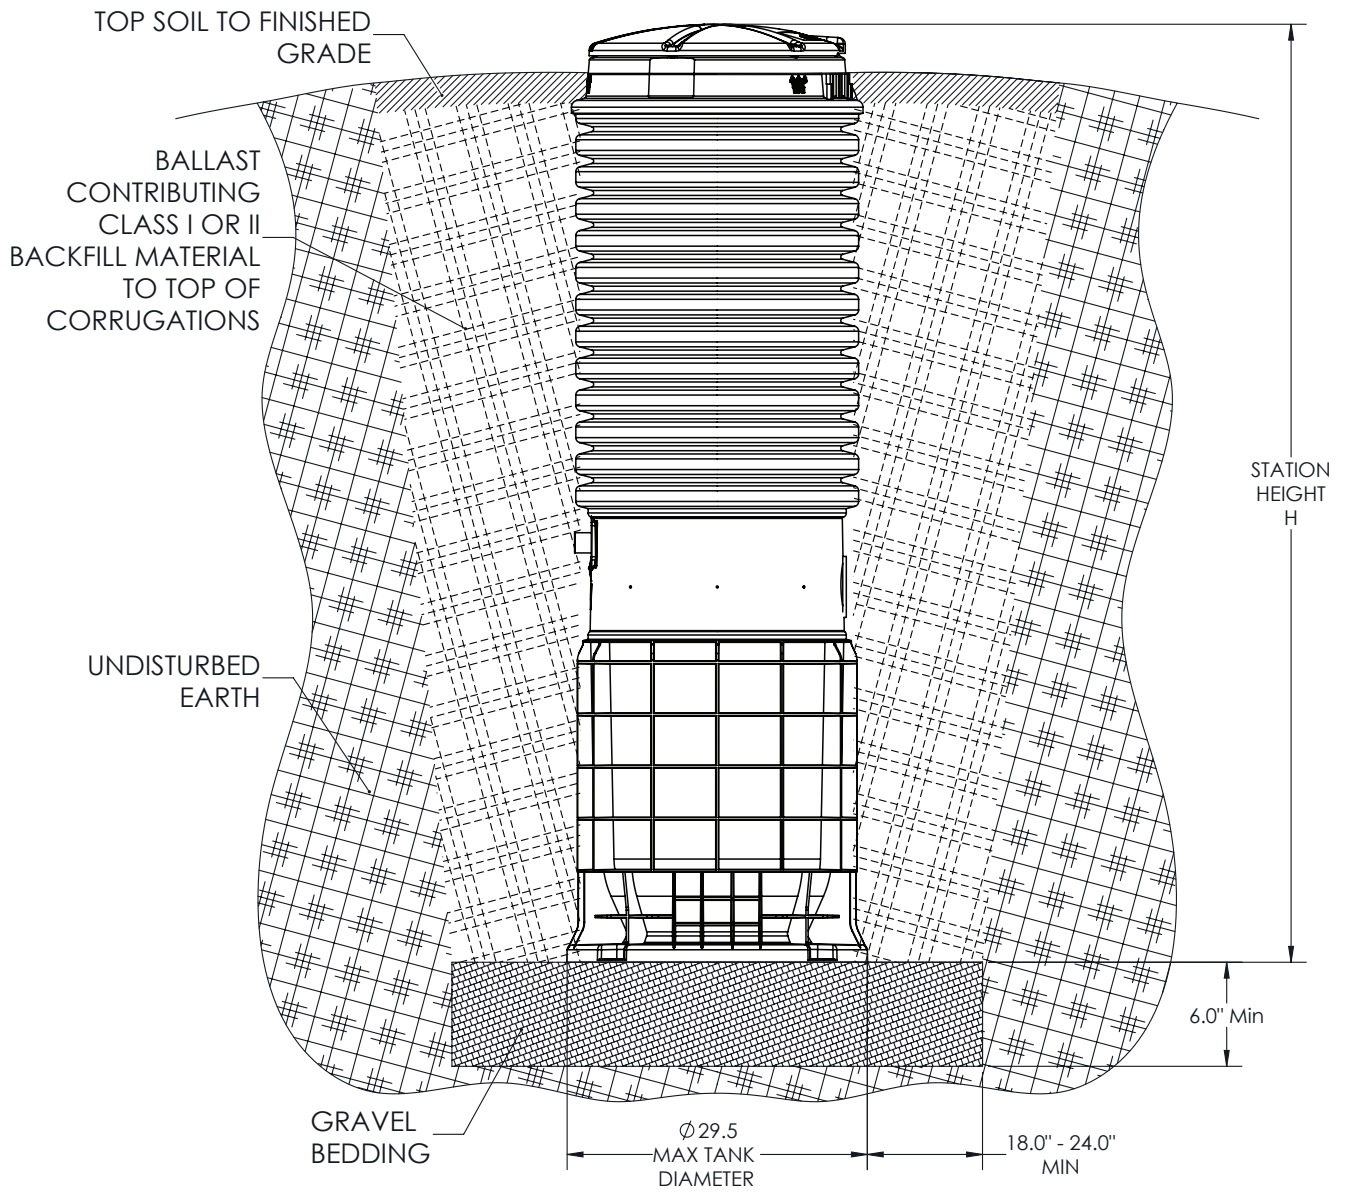

Figure 6
2. TANK INSTALLATION: The tank is supplied with a standard 4-inch PVC DWV (4.5 inches inside dia.) inlet for connecting the incoming sewer drain. Other inlet types and sizes are optional (caution 4" DR-35 pipe is of smaller diameter and won't create a watertight joint with the standard grommet). Confirm that you have the correct inlet before continuing with installation. Do not drop, roll or lay the tank on its side. Doing so may damage the unit and void the warranty. Excavate a hole to a depth so the removable cover extends above the finished grade line; the grade should slope away from the unit. The diameter of the hole must be large enough to allow for appropriate bedding and backfill installation (Fig. 6). Place the unit on a 6-inch bed of gravel, naturally rounded aggregate, clean and free-flowing, with particle size not less than 1/8 inch or more than 3/4 inch in diameter. WH101 tanks that feature the Universal Wet Well do not require additional concrete anchor to prevent flotation in the presence of high ground water. WH101 tanks with a corrugated bottom section require alternative installation instructions that detail a concrete anchor for ballast. Contact your local E/One distributor for assistance.
5. BACKFILL REQUIREMENTS (Fig. 6): Proper backfill is essential to the long term reliability of any underground structure. Several methods of backfill are available to produce favorable results with different native soil conditions.
Unique to the E/One models DH071 and WH101 incorporating an injection molded Universal Wet Well, the bottom flange of the tank is designed to capture a suitable column of backfilled soil to resist the upward buoyant force. The weight of the backfill soil along with the soil shear resistance of the soil can retain the DH071 and WH101 tank in the ground – when properly installed in suitable soil conditions. See figure 6 for proper tank burial.